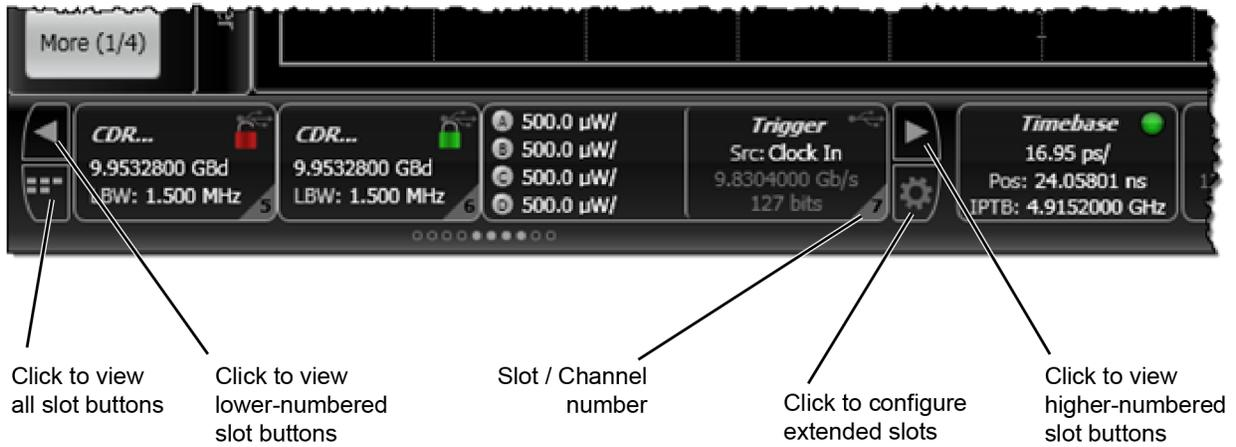

Figure 15. Slot buttons at bottom of FlexDCA application
- In FlexDCA's slot button tray, shown in Figure 15 on page 39, locate the slot button for your installed DCA-M. Click the gear button if you want to re-assign the DCA-M to a different slot. This can also be accomplished remotely as shown in Example 3. Perform eye measurement with N109X & N1076/7A on page 151.